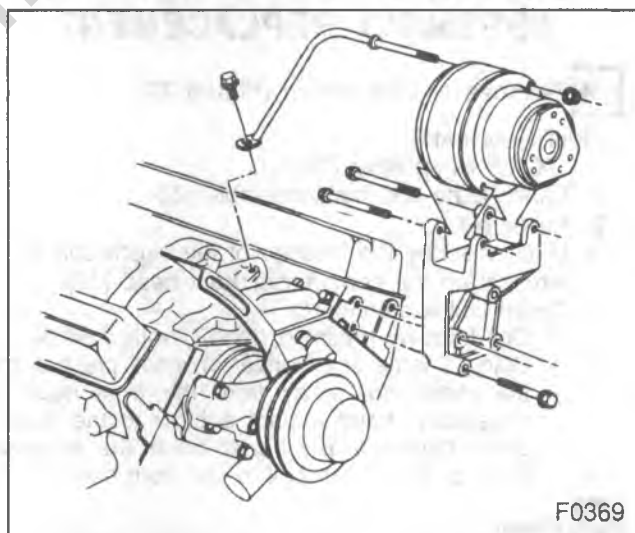

Figure 76—P-Truck 5.7 L Engine Compressor Installation
2. Compressor Installation — refer to figures 76 and 77.